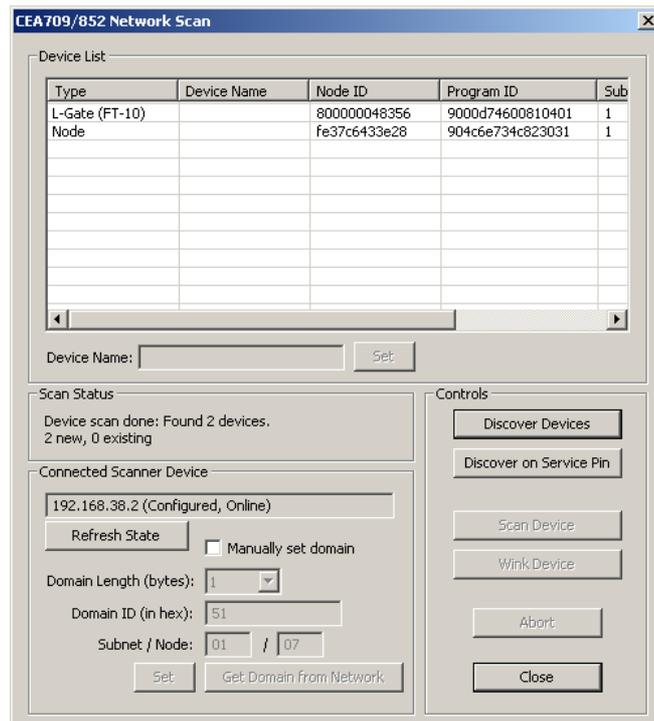

Figure 106: CEA-709 network scan dialog.
- Right-click on that folder and select **Scan CEA709/852 Network...**. This opens the CEA709/852 Network Scan dialog as shown in Figure 106.